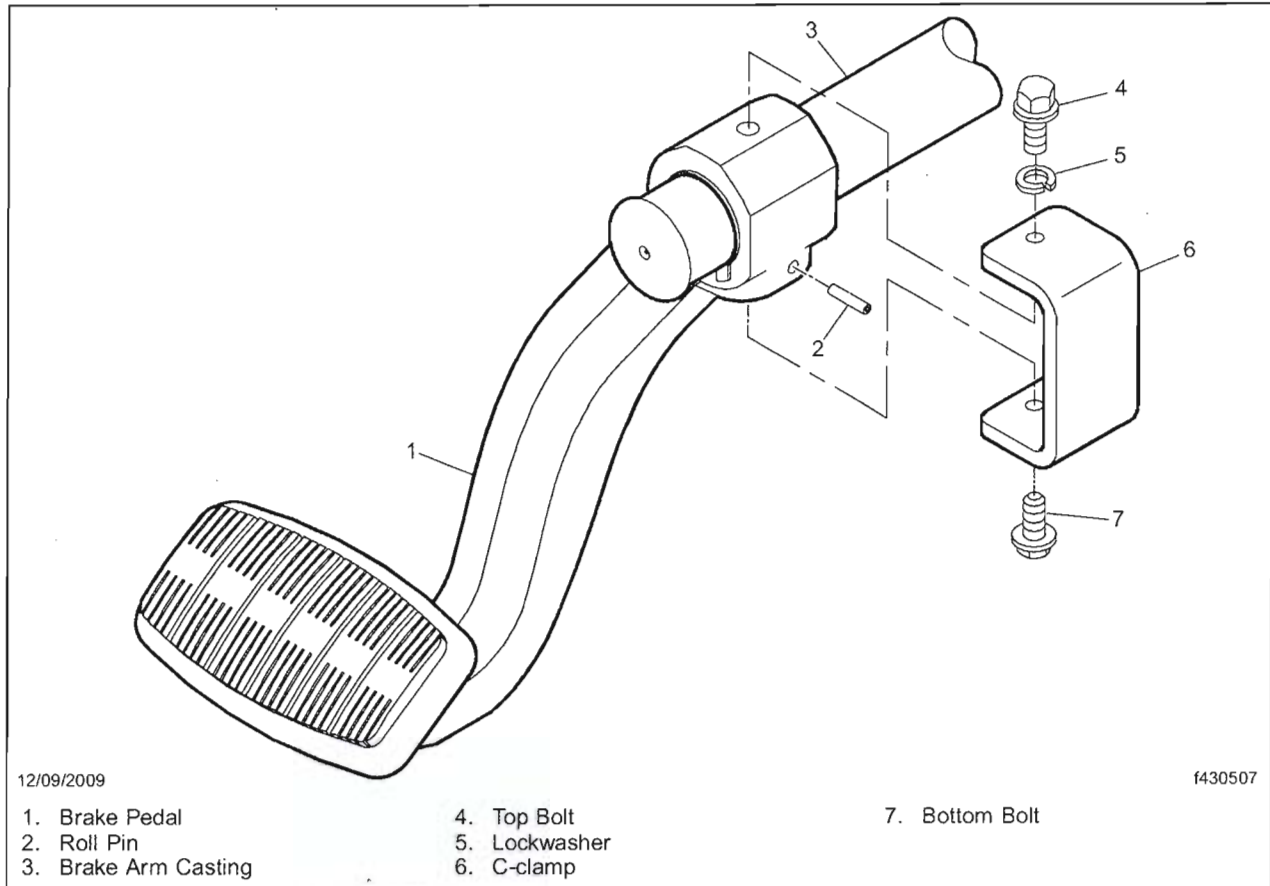

Fig. 1, Adjustable Brake Pedal Assembly
3. Check to see if a C-clamp or roll pin is installed on the adjustable brake pedal. See **Fig. 1**.
1. With the C-clamp in your hand, install the C-clamp assembly in the guide hole at the top of the brake arm casting. Make certain the C-clamp is against the casting and tighten the top bolt  $40\pm 5$  lbf-in ( $452\pm 5$  N·cm). The bolt with the lockwasher should be installed at the top, as shown in **Fig. 1**, Items 4 and 5. Then tighten the bottom bolt  $40\pm 5$  lbf-in ( $452\pm 5$  N·cm).